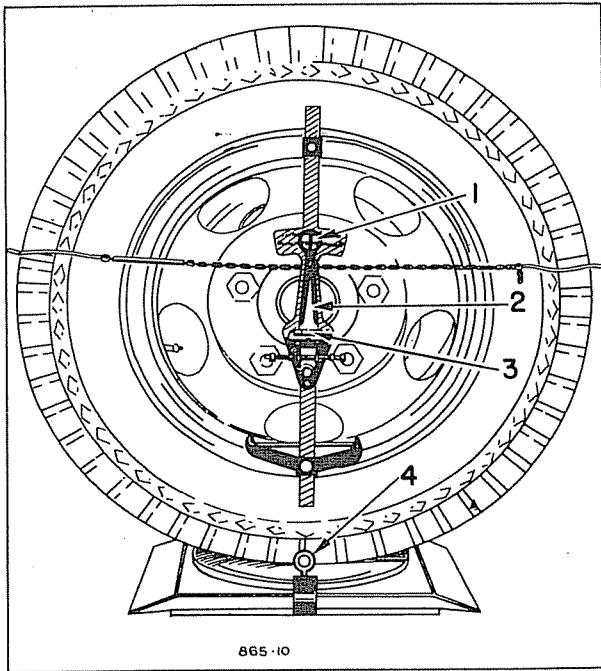
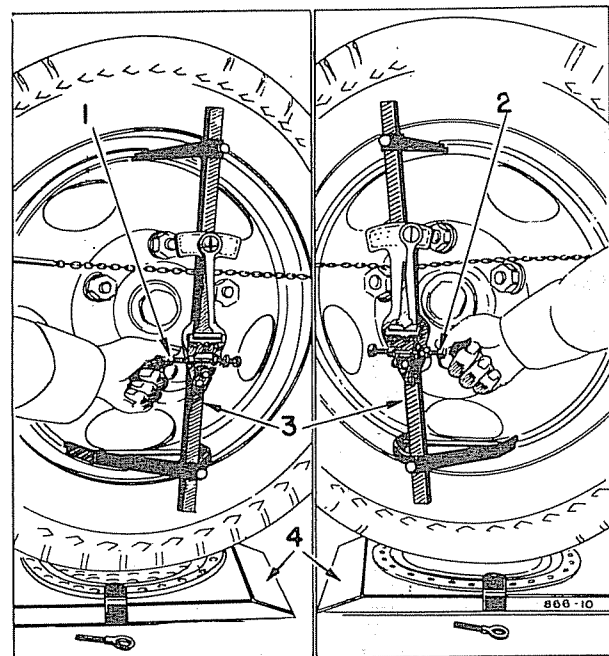

Fig. 8—Gauge Installed on Right Front Wheel.
Fig. 9—Checking King Pin Inclination
- (3) Assemble gauge, as shown in Figure 8, so that quadrant is parallel with the wheel.
- (4) Attach the gauge to the right wheel (using chain) in a vertical position so the bubble is level, hair line on zero and pointer on scratch mark.
- (5) Remove turntable lock pins and turn wheels to the left 20 degrees as indicated on turntable scale. Adjust secondary screw (this controls short pointer) until bubble levels (Figure 9).
- (6) Turn the wheels to the right until the right wheel has been turned 20 degrees past the straight-ahead position. Adjust the primary screw which controls the hair line, until the bubble levels. The reading on the 40 degree scale will be the king pin angle (Figure 9).
- (7) To check the left wheel, follow the same procedure. However, the wheel should be turned to the right 20 degrees at start of operation.